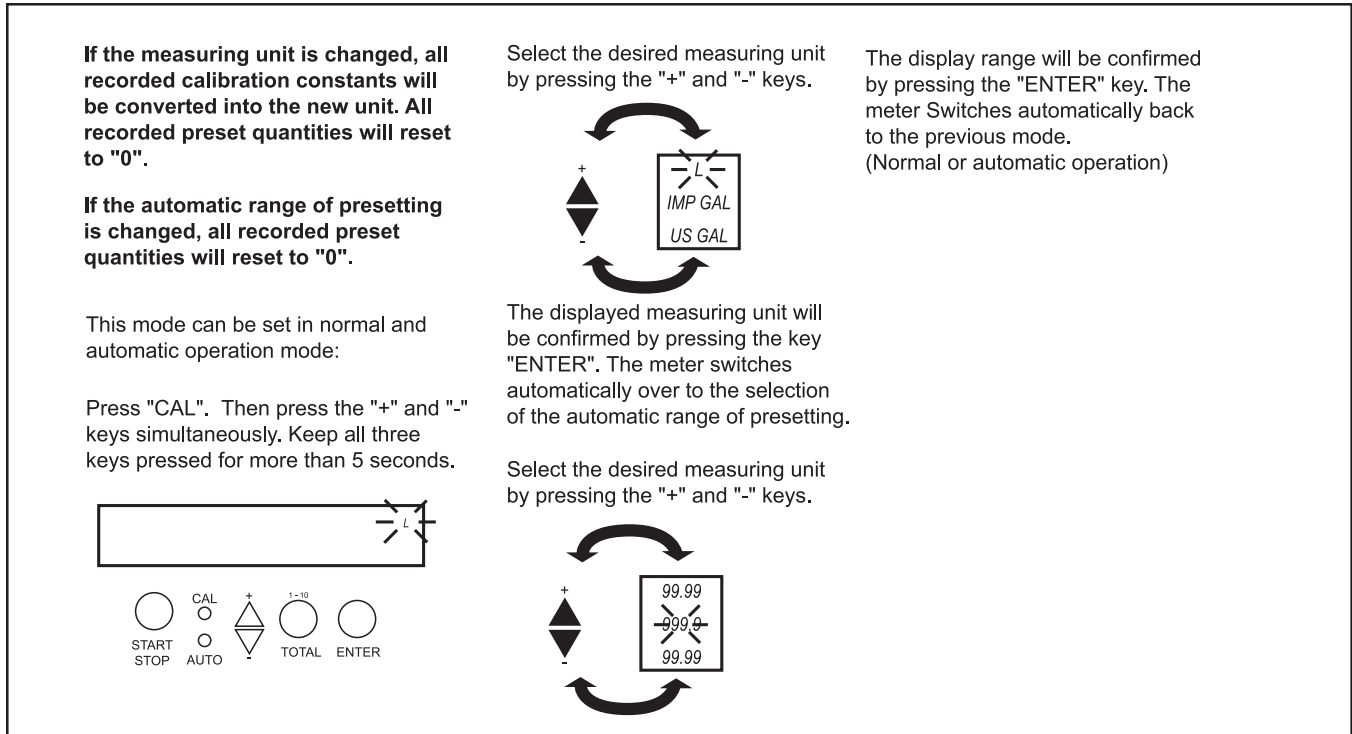

Figure 3-17 Select Measuring Unit
- 2. Electronic display mounted on liquid meter; amplifier with 1 output signal for installation into a switchboard for controlling 1 valve; external Start/Stop device. (Refer to Figure 3-17).